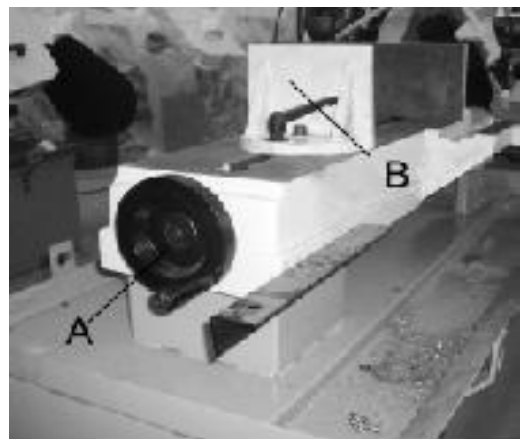

Fig.12
Your machine is equipped with a “quick action” vise jaw which allows you to instantly position the moveable vise jaw (B) Fig.12. Simply turn hand wheel (A) counterclockwise 1/2 turn and move the vise jaw (B) to the desired position. Then tighten the vise (B) against the workpiece by turning hand wheel clockwise. The vise can be adjusted to cut any angle from a straight 90 degree cut-off to a 45 degree angle by loosening the two spring-loaded clamps handles (one located on each vise jaw), positioning the vise jaws to the desired angle and tightening the tow spring-loaded handles.